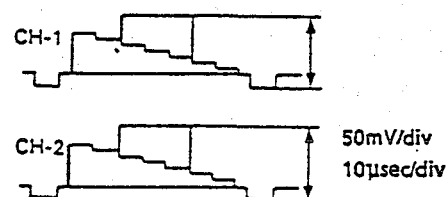

Figure 2-9.
2. Adjust R202 (delay level control) so that the levels of CH-1 and CH-2 are the same as shown in Figure 2-9.